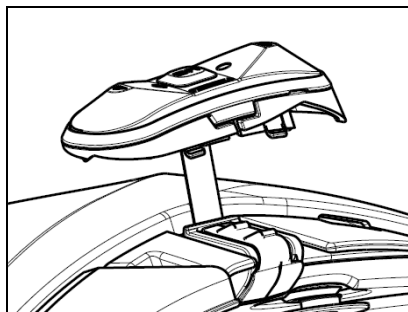

Fig. 16
- Fix the cable inside the helmet and make sure the left fixing clip snaps into its housing (Fig. 16);